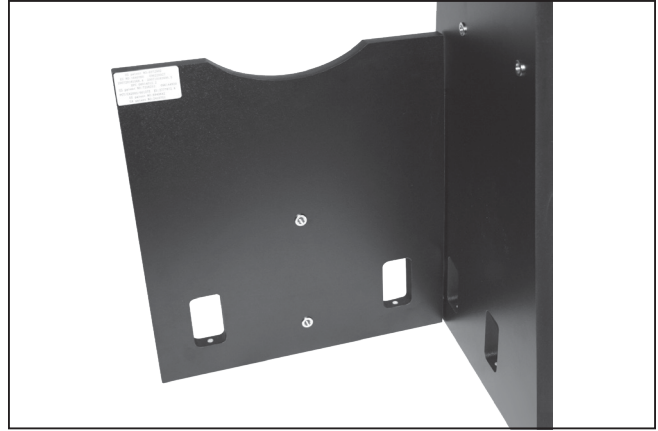

Figure 8. Secure the front panel to each side panel.
2. Connect the side panels to the front panel (**Figure 8**). Use the coarse thread socket-head screws for this. There are unthreaded pilot holes (without the metal collar) to align these pieces. Orient the side panels so the oval XTg label is facing outward. Orient the front panel so that the pilot holes for the handle and eyepiece rack face out. The side panel with the motor attached is the left panel. There are six screws total (three for each side) to assemble. Start by inserting the screws and turning by hand to ensure they are going in straight. When you begin to meet resistance use the 4mm hex key to com-